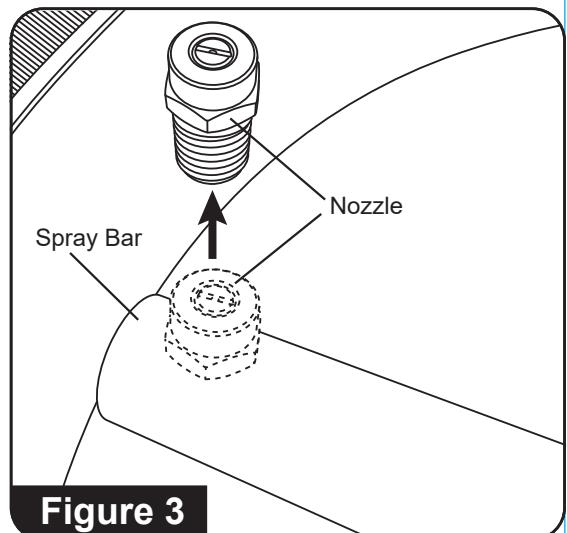

Figure 3
3. Using a 9/16" wrench (not provided) remove both nozzles from the spray bar. (See Figure 3)